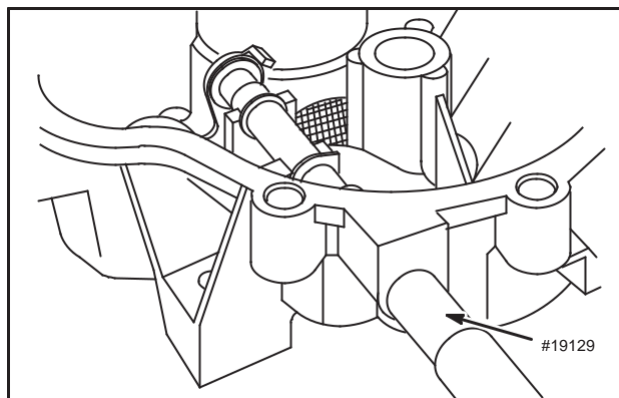

Fig. 13 - Install Governor Shaft Bushing
2. Using Tool #19129 press in bushing until it bottoms, Fig. 13.